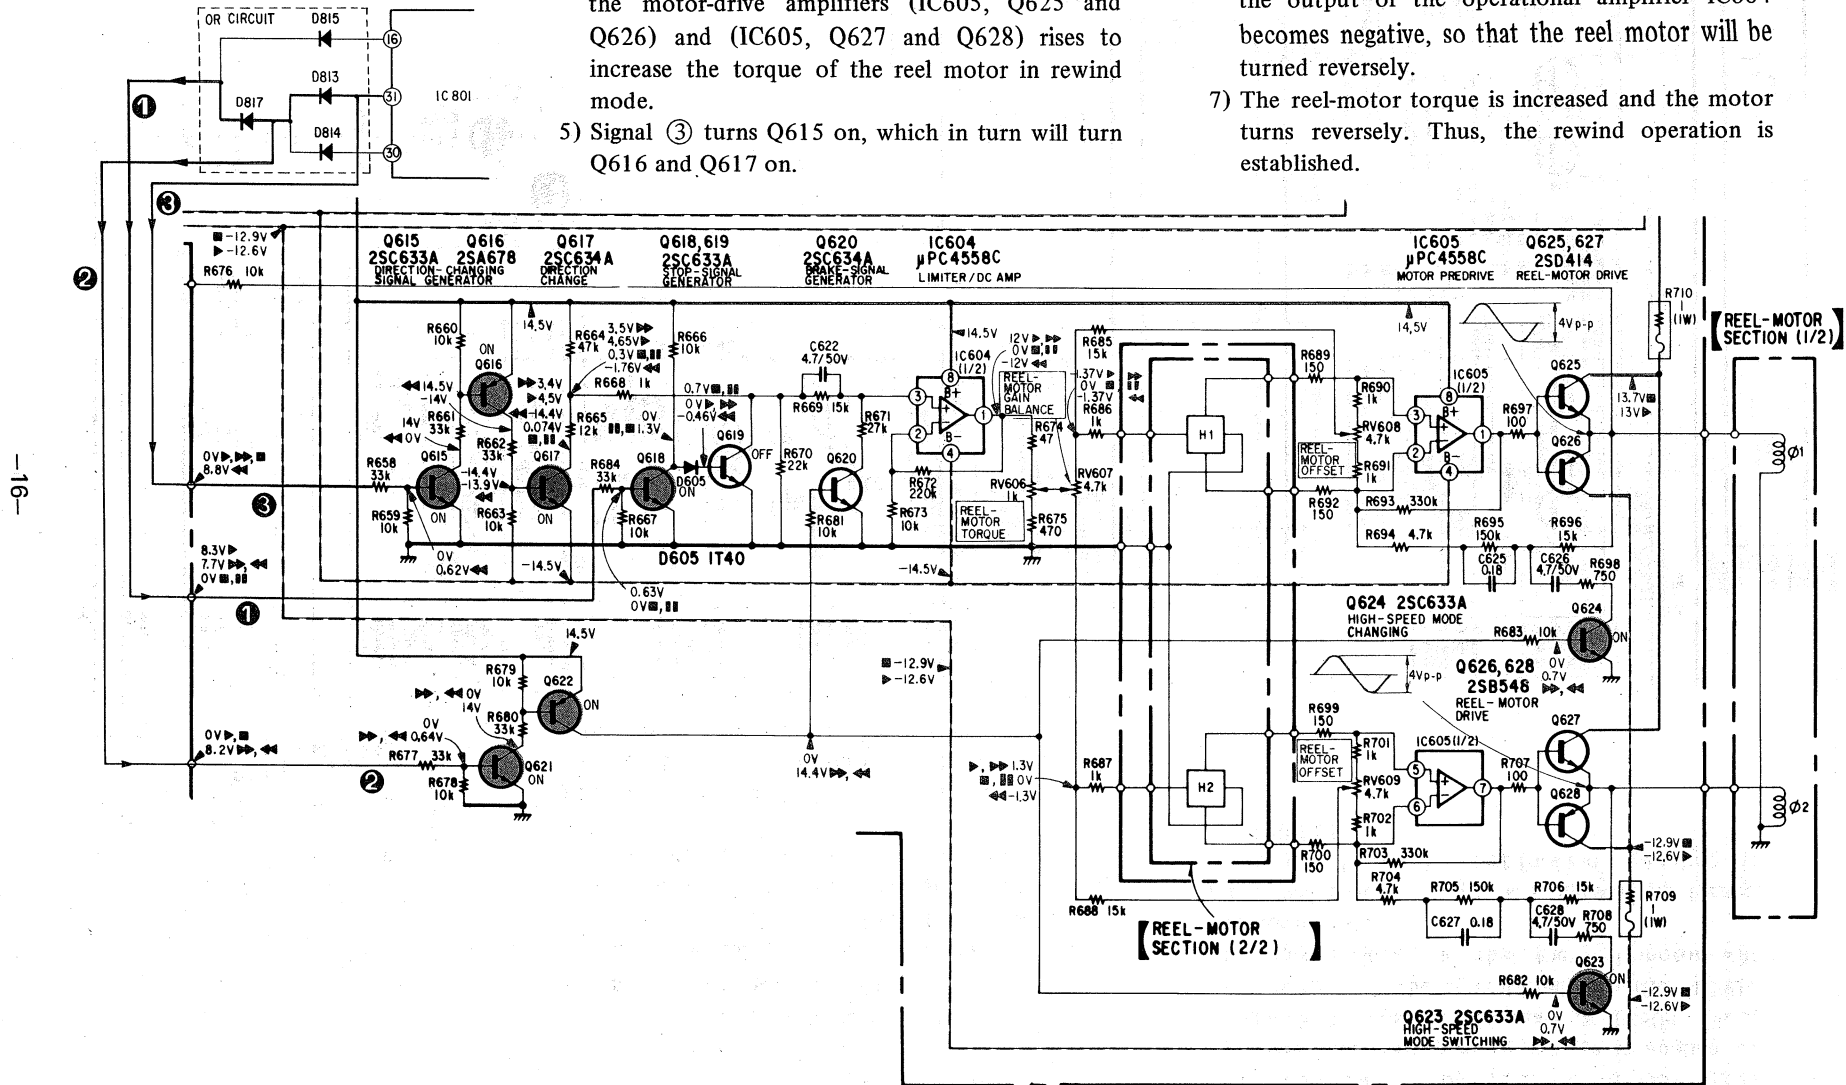

Fig. 18
2. Depressing rewind button (See Fig. 18)